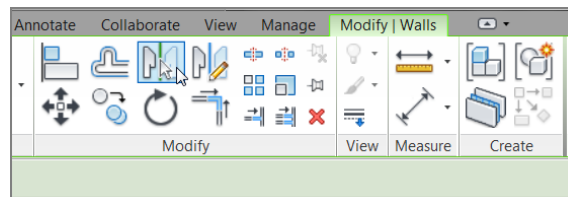

FIGURE 2.29: The Mirror ➤ Pick Axis command is activated when you have objects selected.
2. On the Modify | Walls tab, click the Mirror ➤ Pick Axis button, as shown in Figure 2.29.